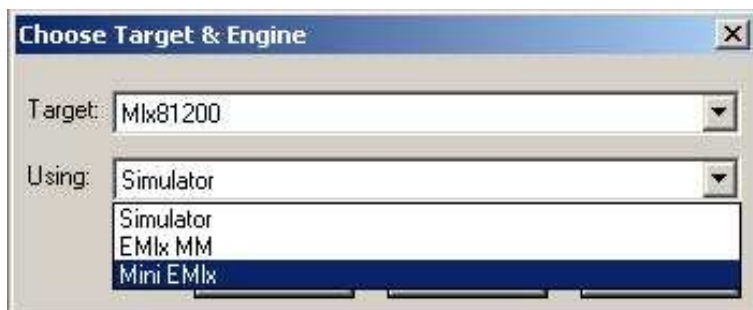

Fig. 9 Interactive Debugger: Selecting Simulator or Emulator mode
- Select target 'Mlx81200' and 'Simulator' from 'Tools' -> 'Target & Engine' menus as shown in Fig. 9
- Select target 'Mlx81200' and 'Mini EMLx' from 'Tools' 'Target&Engine' menus as shown in Fig. 9